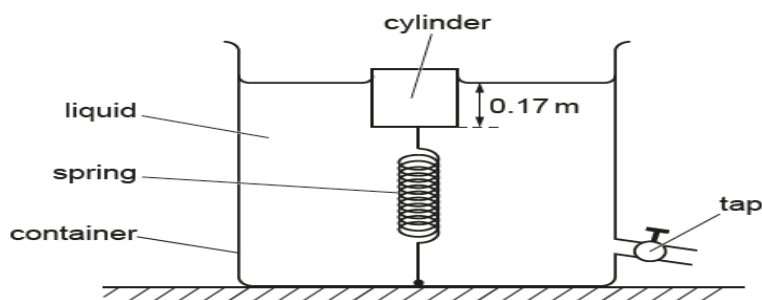

Fig. 1.2 (not to scale)
- (b) The cylinder in (a) is attached by a spring to the bottom of a rigid container of liquid, as shown in Fig. 1.2.